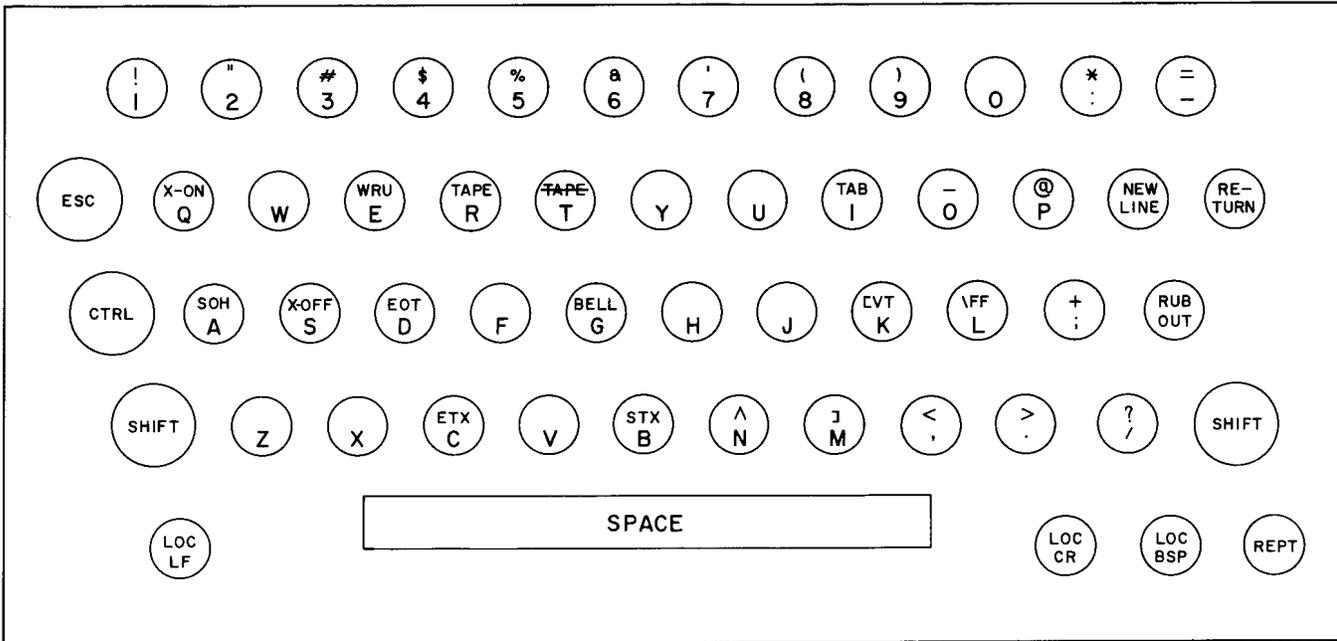

Fig. 8—Teletypewriter Keyboard
3.15 Reference should be made to Fig. 8 and 9 for the TTY keyboard and perforated tape used with the service order TTY. The keyboard should have upper-case characters in both red and white. These upper-case characters are selected in a similar manner as the capital letters are on a standard typewriter. There are two keys, the SHIFT and CTRL keys. The SHIFT key lettering is white and is used to control the upper-case characters that are lettered white. The CTRL key lettering is red and is used to control the upper case characters that are lettered red; simply stated, red controls red and white shifts to white.